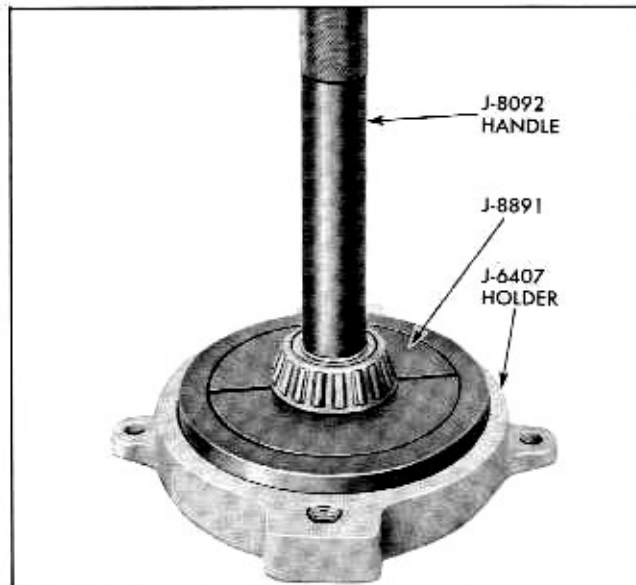

Fig. 4-31 Removing Front Pinion Bearing
2. Remove front pinion bearing—press off using J-8891 in J-6407 holder and J-8092 handle (Fig. 4-31).